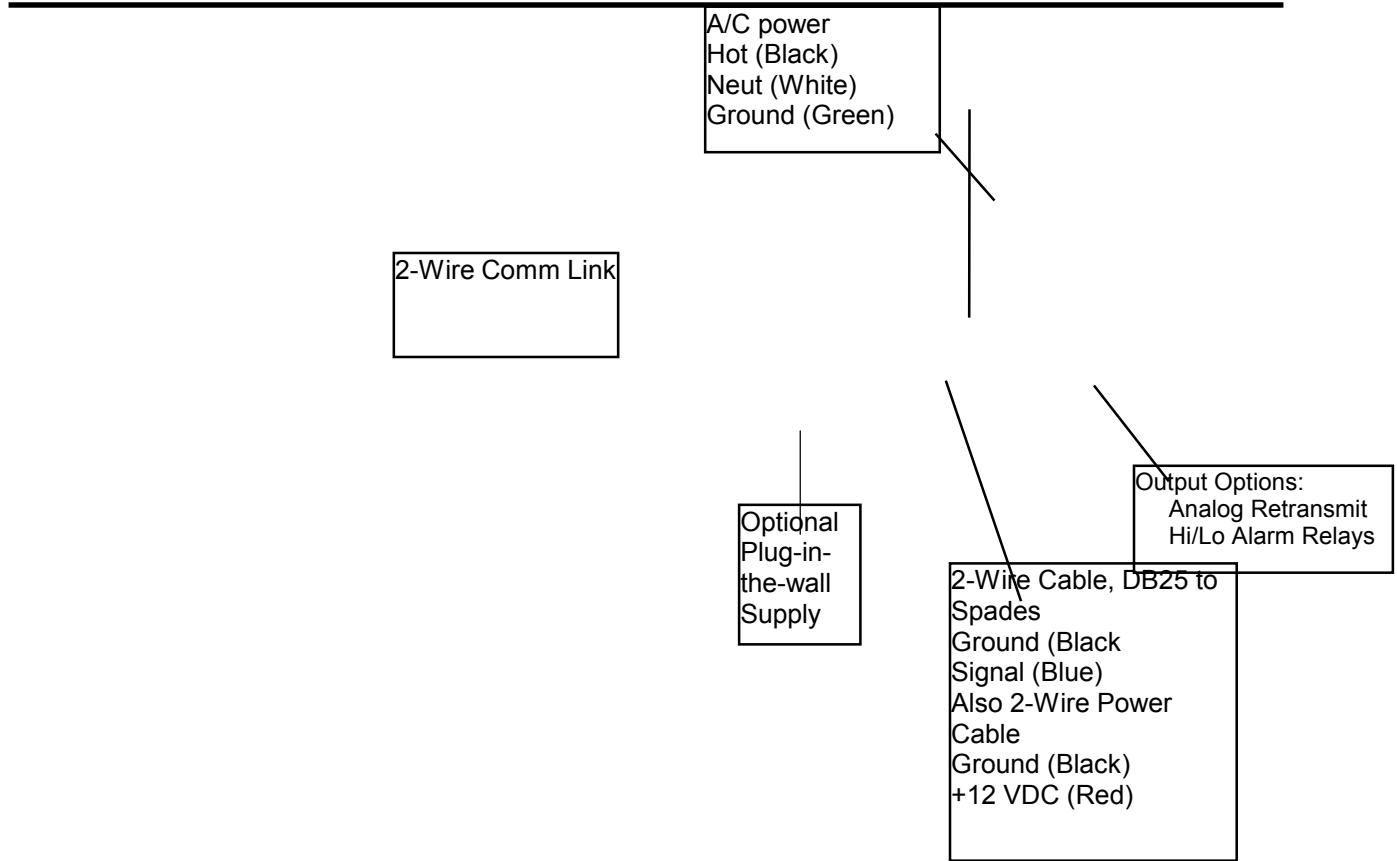

Figure 4. System Diagram
reference the system diagram in Figure 4, and SYSTEM DIAGRAM on Page 9.
A. The system should be connected as shown in the attached system diagram (Figure 4). Power should not be applied to components at either the gage site or the receive site until all connections are